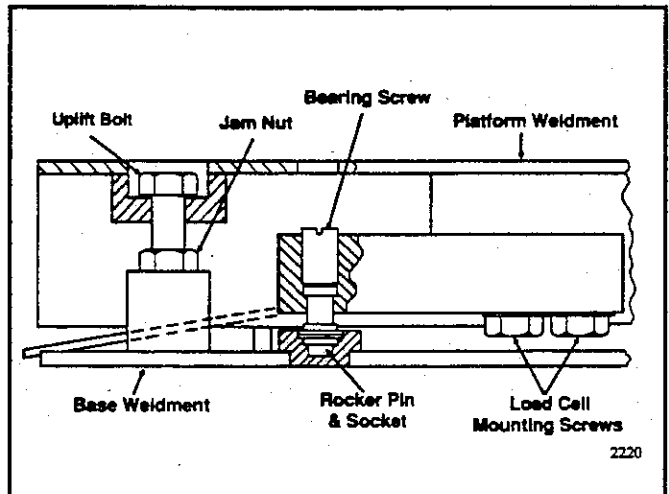

FIGURE 4-2: BASE WELDMENT UPLIFT BOLTS
7. Remove the two bolts securing each load cell to its mounting block (Refer to Figure 4-2).